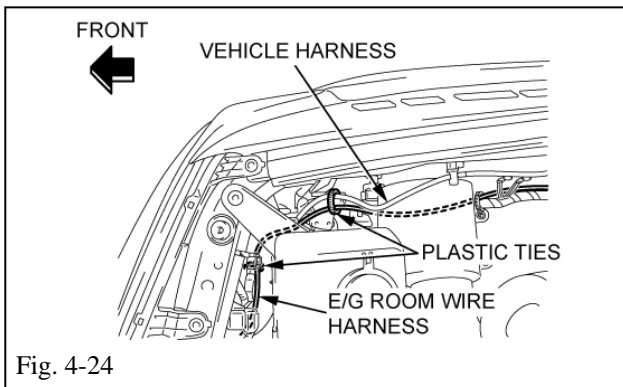

Fig. 4-24
- (y) Secure the E/G R W to the vehicle side wire harness using four (4) plastic ties (150 mm black). (Fig. 4-24)